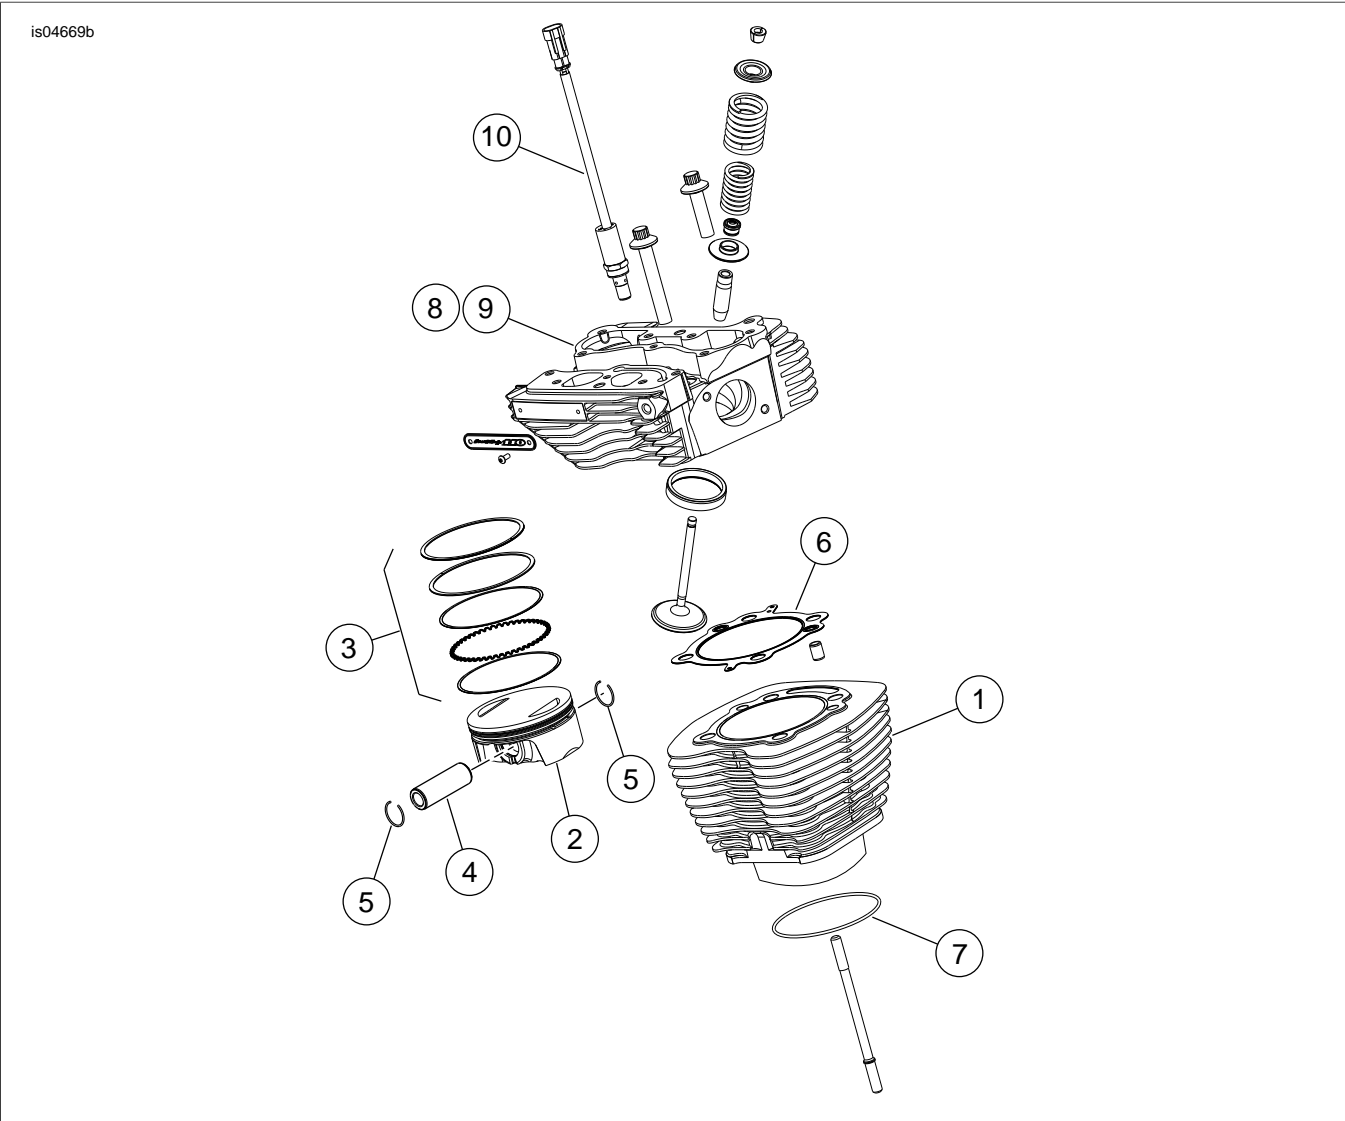
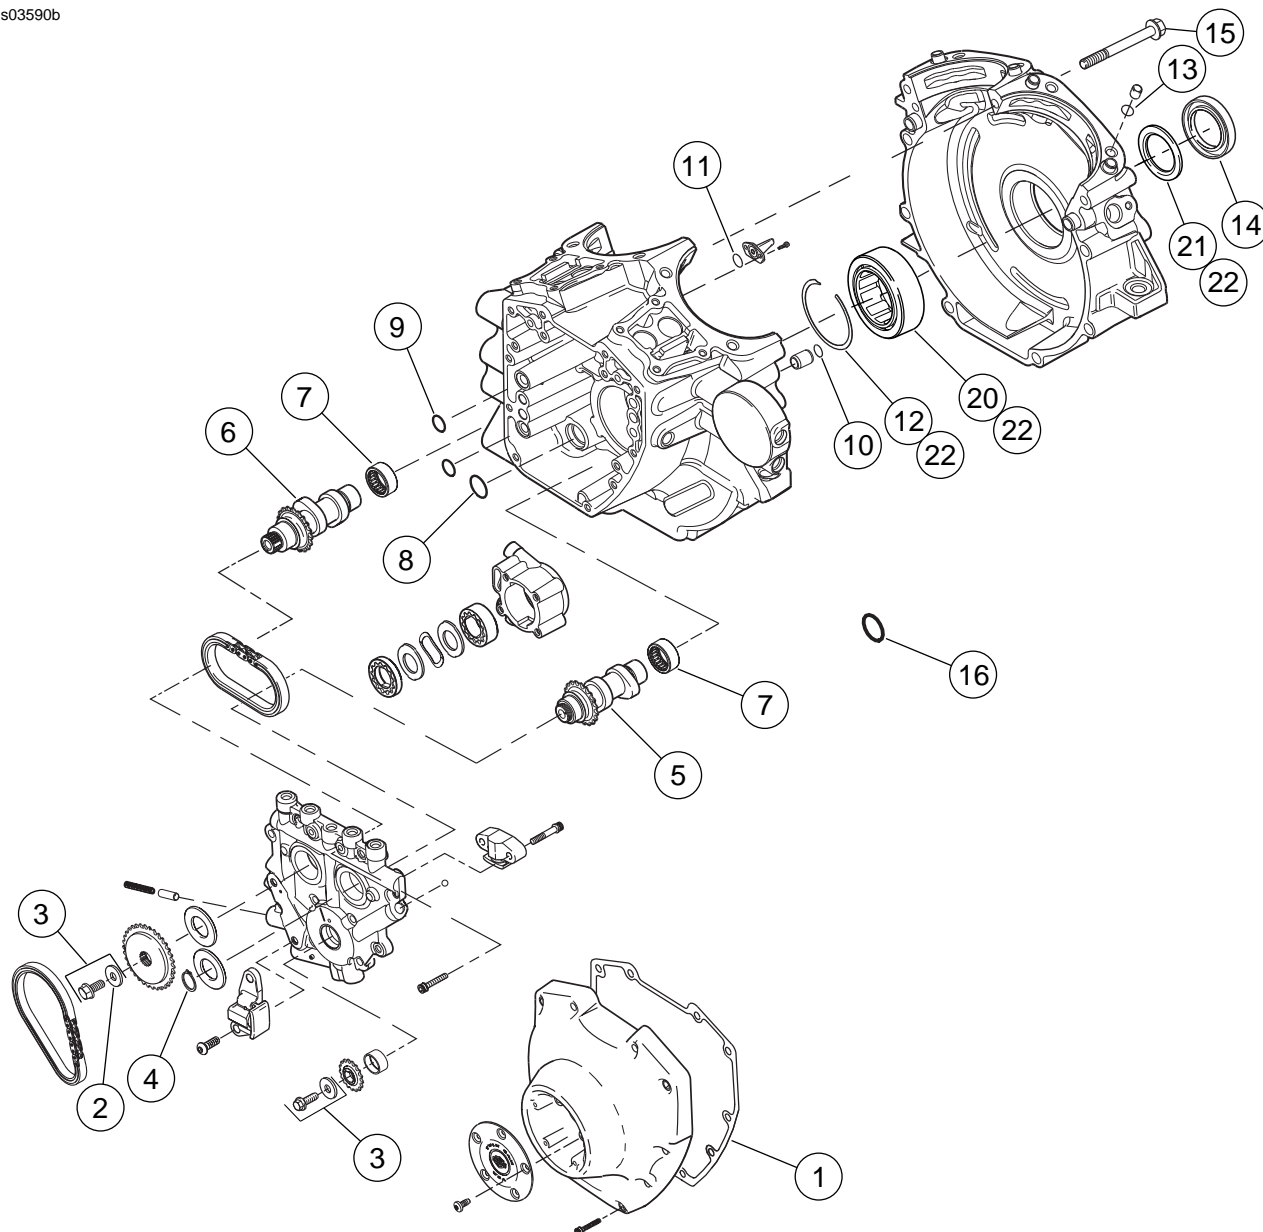

Figure 4. Service Parts: Screamin' Eagle Twin Cam 110 (1800 cc) Conversion Kit
Figure 6. Service Parts: Screamin' Eagle Pro Twin Cam 110 (1800 cc) Conversion Kit
See Figure 4 to Figure 7 and Table 2 to Table 5.
4. See Figure 6. Reassemble engine case with original screws, except the top center screw between the cylinders, and tighten to specifications listed in service manual.
- See Figure 6. Install the top center engine crankcase screw (15) supplied in kit but do not tighten.
1. See Figure 6. Inspect camshaft needle bearings (7) and replace if necessary.
2. See Figure 4 through Figure 6. Assemble engine top end and bottom end using parts from kit. Refer to appropriate sections in service manual.
6. See Figure 4. Install Air Cleaner Kit (29592-05) according to the instructions in the Instruction Sheet.